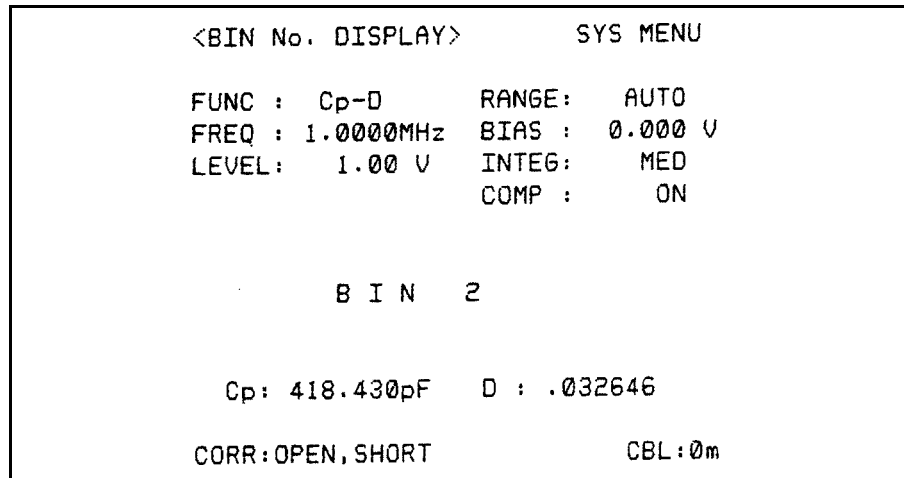

Figure 4-6. BIN No. DISPLAY Page Printout Example
7. Press **PRINT DISP** when you want to print out the displayed page. The displayed page is printed out as shown in Figure 4-6.